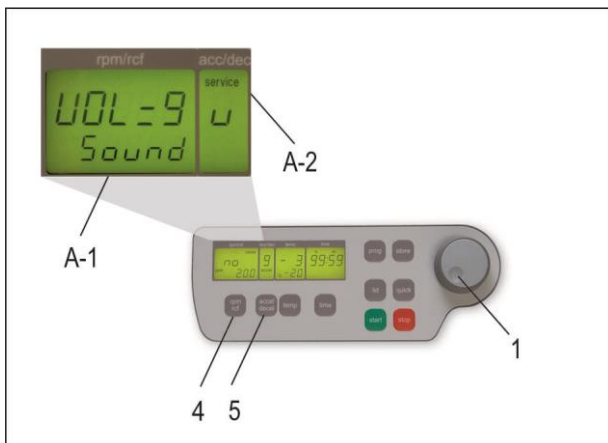

Figure 7
Proceed as illustrated, under point 1.8.1, to enter this program mode, press the key "accel/decel" (5). In the display, "accel/decel" (A-2), flashes the word, "service". Select the letter, "U" with the adjustable knob (1). As a result, appearing in the display, "rpm/rcf" (A-1), are the words, "Vol=0-9/Sound". By pressing the key, "rpm/rcf" (4), the desired volume can be adjusted between 0 (low) and 9 (loud), with the adjustable knob (1), (see Figure 7).